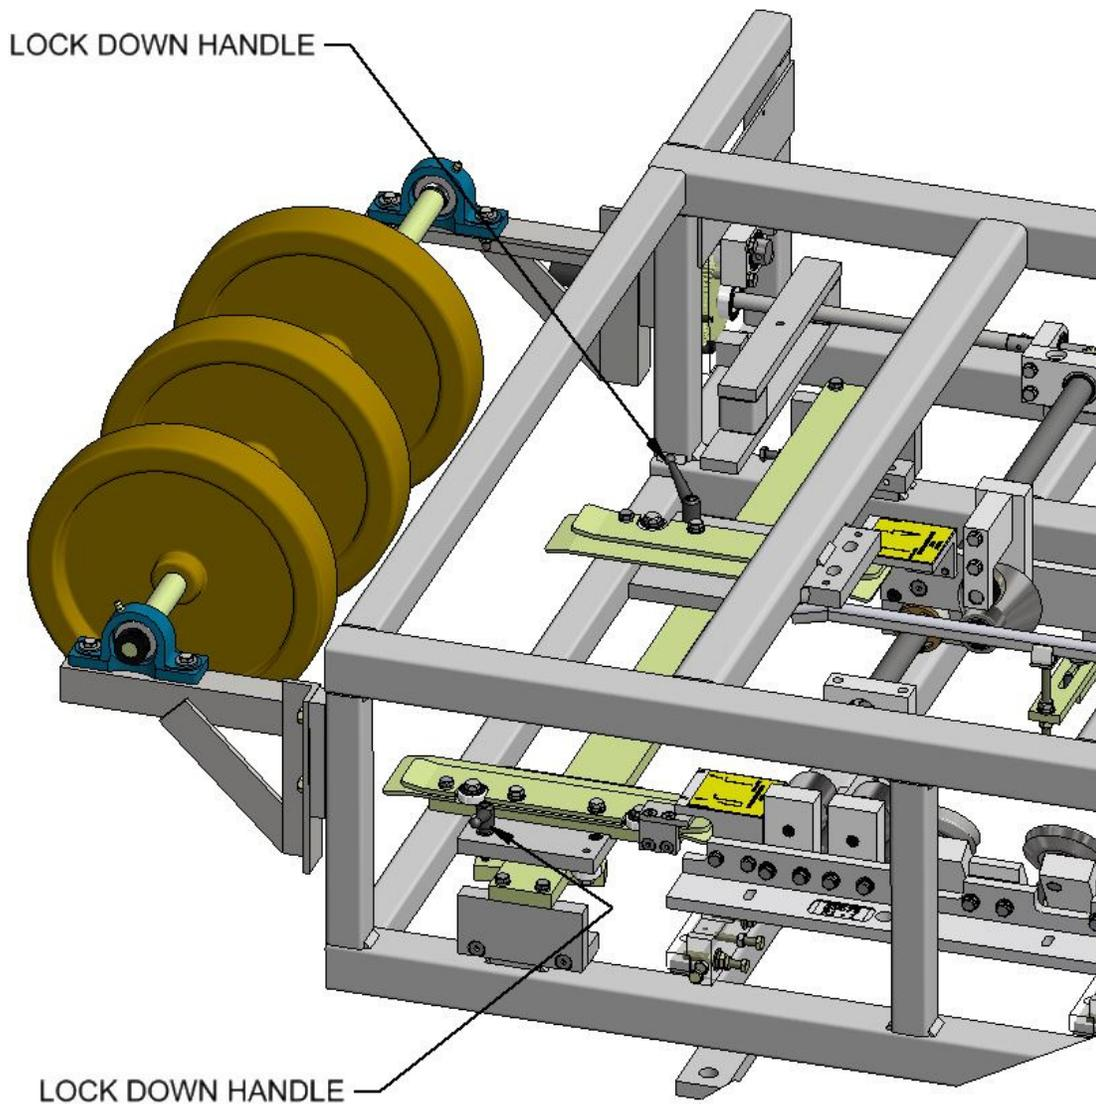
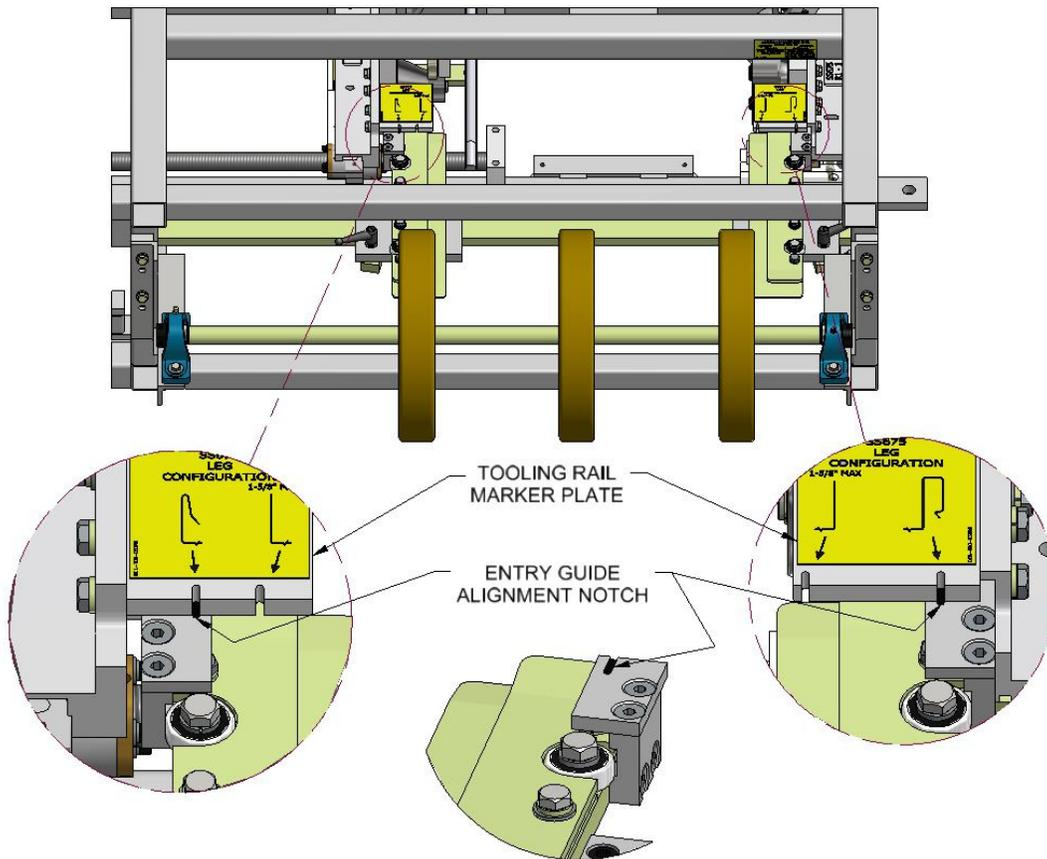

Figure 36: Entry Guide Lock Down Handles
Figure 37: Entry Guide Alignment
(Figure 36 & Figure 37)
2. To align, loosen the Lock Down Handle on the Right Entry Guide (Figure 36). Slide the entry guide to the left or right until the Entry Guide Alignment Notch is directly under one of the notches on the Tooling Rail Marker Plate. Make sure to choose the notch on the Marker Plate that corresponds to the desired leg configuration as noted on the decal on the top of the Marker Plate. (Figure 37)